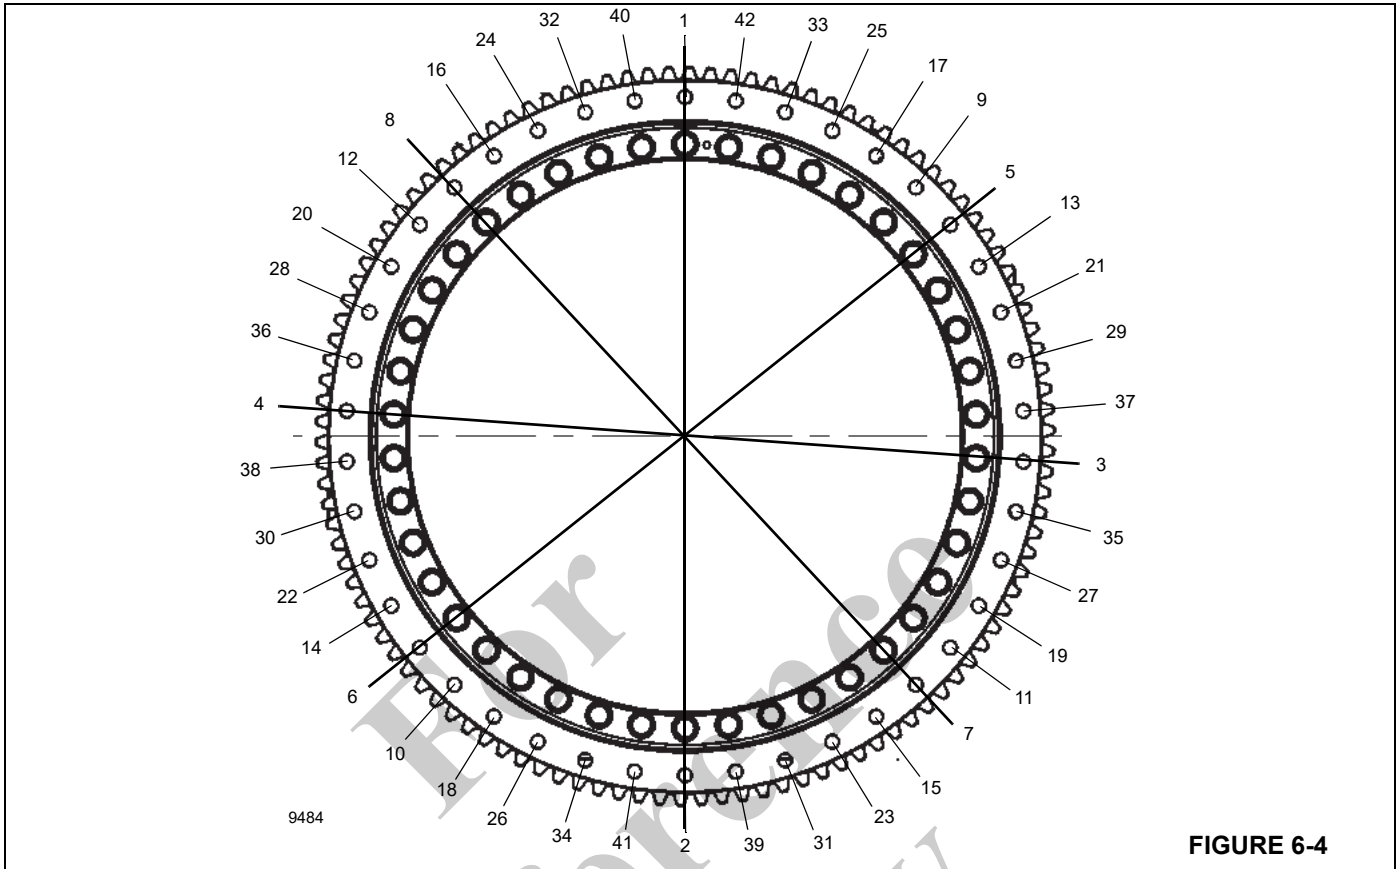

FIGURE 6-4
The inner race of the bearing is secured to the turret by 42, M24 × 150mm, Grade 10.9 bolts (Figure 6-4). The outer race of the bearing is secured to the carrier frame by 42, M24 × 150mm, Grade 10.9 bolts (Figure 6-4).
3. Torque all bolts to 80% of the full torque value of 790 Nm ±35 Nm (582.7 lb-ft ± 26 lb-ft) following a star pattern sequence as shown in Figure 6-4 starting with bolt number 1.
3. Torque all bolts to 80% of the full torque value of 790 Nm ±35 Nm (582.7 lb-ft ± 26 lb-ft) following star pattern sequence as shown in Figure 6-4 starting with bolt number 1.